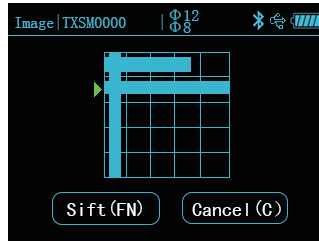

Fig.3.16 Scanning location view interface with image scanning
2. In the graphic display interface of image scanning component data, you will see the summary of all measurements first, as illustrated in Fig.3.16. The user shall press the down direction key to select the scanning location to be viewed, and then press【OK】key to go to the graphic data view interface for selection of scanning location.